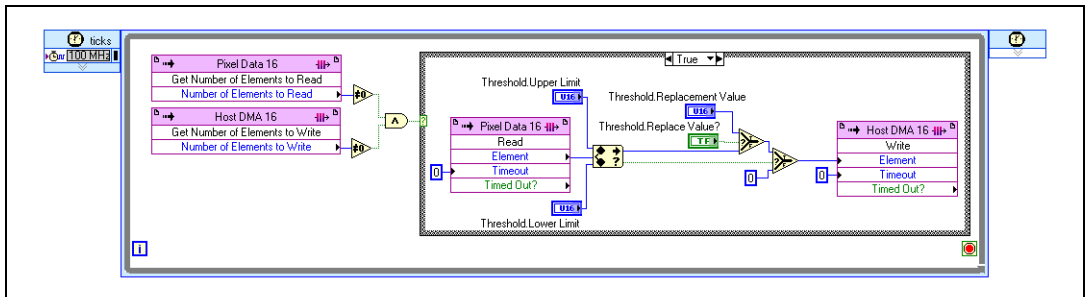

Figure 8. Threshold Loop
23. Refer to Figure 8 while completing the following steps to build the threshold loop.
- h. Complete the threshold loop by wiring the block diagram as shown in Figure 8. The U16 control names are **Threshold.Upper Limit**, **Threshold.Lower Limit**, and **Threshold.Replacement Value**. The Boolean control name is **Threshold.Replace Value?**.